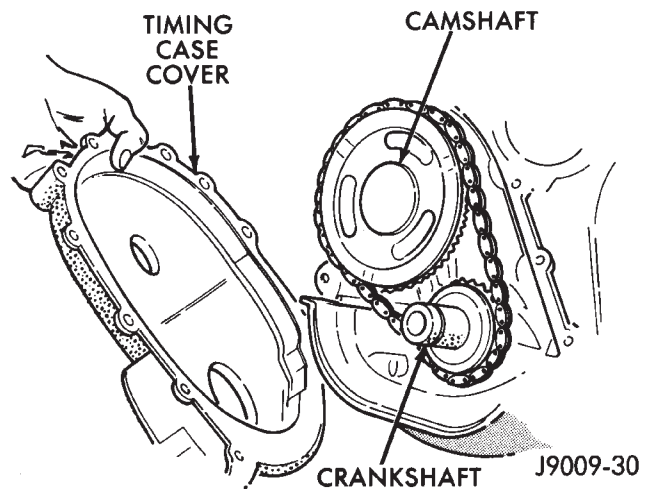

Fig. 50 Timing Case Cover
(13) Install the timing case cover with a replacement oil seal (Fig. 50). Refer to Timing Case Cover Installation.
(14) Install the vibration damper.